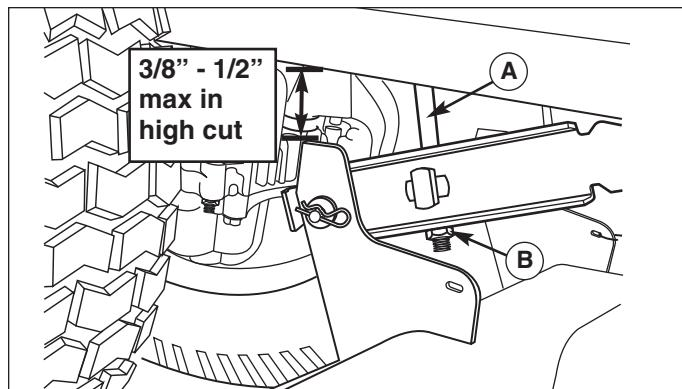

Figure 39. Leveling The Mower Side-to-Side
5. Turn the locknut (B, Figure 39) to raise or lower that side of the mower.
Note: The maximum the mower can be adjusted in high cut is $3/8"$ to $1/2"$ between the frame and mower up-stop. See Figure 39.